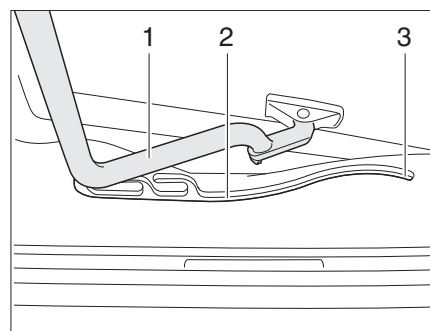

Fig. 23 Hinged skylight, guide
- Pull the bar (Fig. 23,1) in the guides (Fig. 23,2) to the rearmost position (Fig. 23,3).
- Use both hands to push the bar (Fig. 23,1) slightly upwards.
- Pull the bar in the guides (Fig. 23,2) to the desired position.